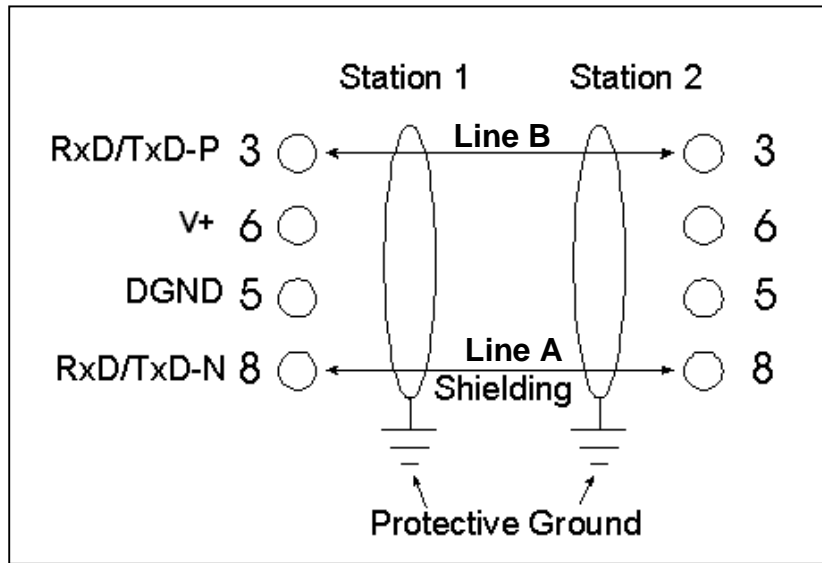

Figure 4.1
- a. The HE693PBM100 uses a 9-pin D-sub plug connector for its DP port. The pin assignment of the plug connector and the wiring are shown below (Figure 4.1).